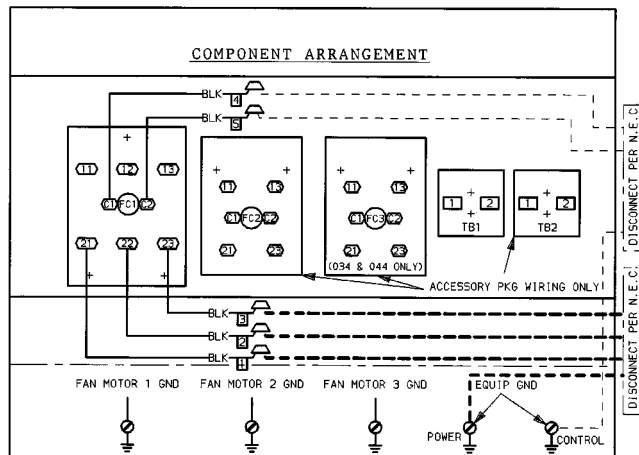

Fig. 2 — Component Arrangement
4. **09DK020-028 Units:** Install fan contactor FC2 and terminal block TB2 inside control box. See Fig. 2. Disconnect red wire from FC1 (11) and orange wire from FC1 (13). Connect red wire to FC2 (21). Connect orange wire to FC2 (23). Attach 8-in. black wire provided in accessory package to FC1 (11) and FC2 (11). Connect the 8-in. blue wire to FC1 (13) and FC2 (13). Next, connect the 8-in. white wire to FC1 neutral side, and FC2 (C2). Attach the 18-in. black wire to FC1 control power side and TB2 (1). Connect one lead of ATS to TB2 (1) and connect the other lead to FC2 (C1).
09DK034,044 Units: Install fan contactors FC2 and FC3 and terminal block TB2 inside control box. See Fig. 2. Add terminal adapter to TB2 (1). See Fig. 2 and 3. Disconnect red and pink wires from FC1 (11). Also, disconnect orange and gray wires from FC1 (13). Connect red wire to FC2 (21) and pink wire to FC3 (21). Also, connect orange wire to FC2 (23) and gray wire to FC3 (23). Attach 8-in. black wire provided in accessory package to FC1 (11) and FC2 (11). Con-